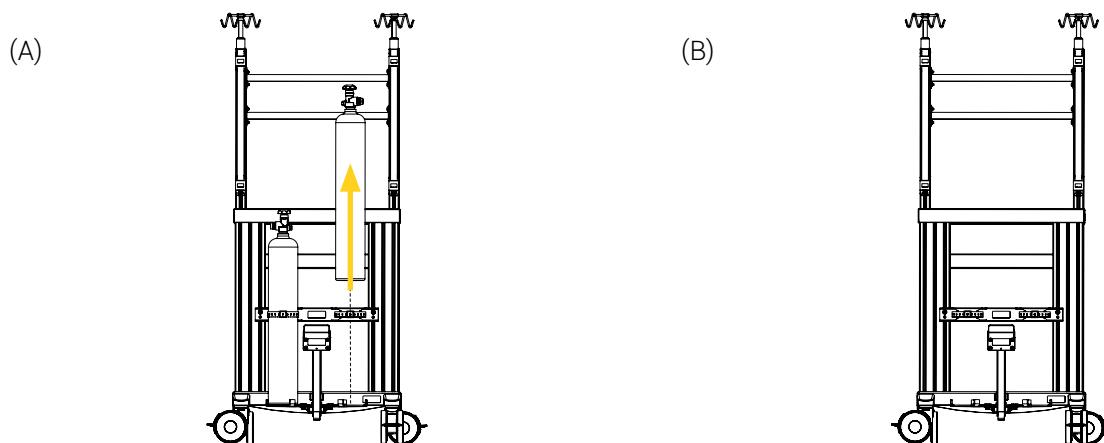

Figure 11 : Removal of the gas cylinder from the mounting bracket
1. Apply the brakes on all four (4) dual wheel swivel casters of the cart
3. Lift and remove the gas cylinder from the mounting bracket (Figure 11 A), then set it aside.
4. If required, repeat steps 1 to 3 to remove a second gas cylinder from the mounting bracket (Figure 11 B).